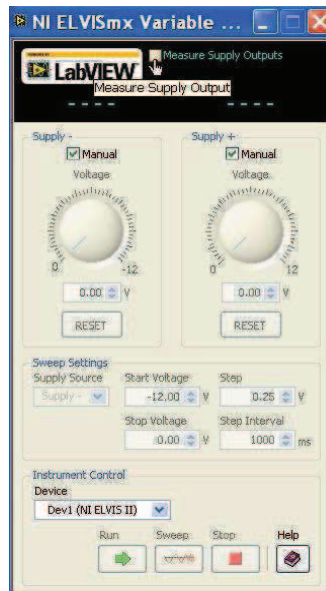

Figure 7
20. Check the box at the top of the NI ELVIS II Variable Power Supplies' virtual instrument shown in Figure 7 below.